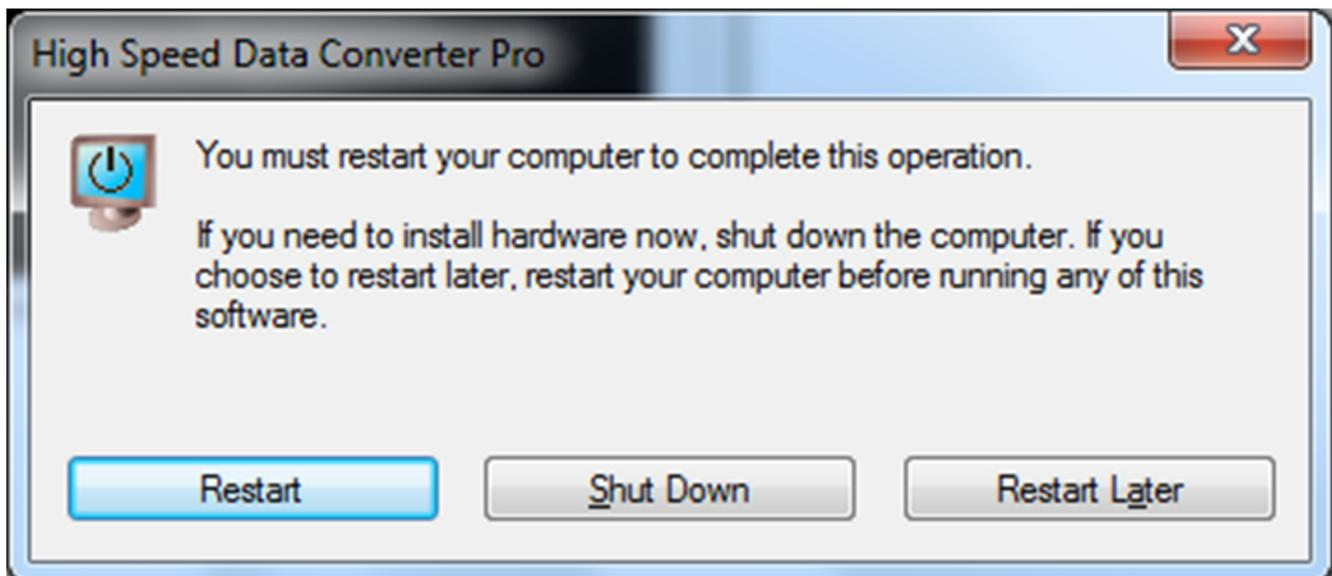

Figure 50. HSDCPro Install
- As shown in Figure 50 a restart might be requested depending on whether or not the PC already had the National Instruments MCR Installer. If requested, hit the *Restart* button to complete the installation.